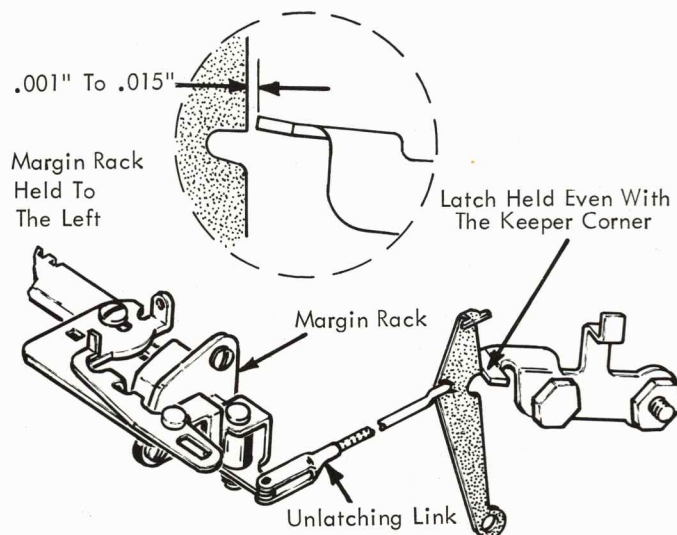

FIGURE 150.3 Clutch Unlatching Adjustment
5. **Clutch Unlatching** - Adjust the carrier return unlatching link to obtain .001" to .015" clearance between the carrier return latch and latch keeper at the point of unlatching (Fig. 150.3). Check by manually holding the latch at the unlatching point while the machine is idling.